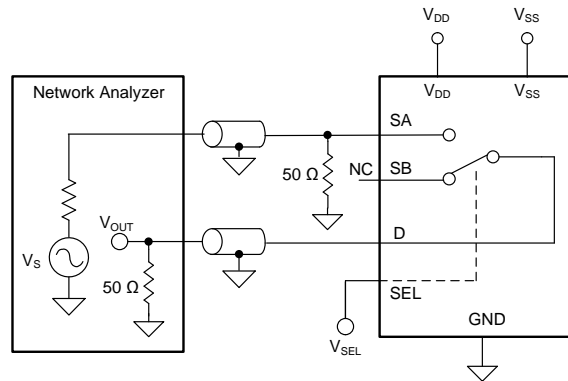

Figure 25. Off Isolation Measurement Setup
Off isolation is defined as the voltage at the drain pin (D) of the TMUX6119 when a 1- V_{RMS} signal is applied to the source pin (SA or SB) of an off-channel. Figure 25 shows the setup used to measure off isolation. Use Equation 2 to compute off isolation.